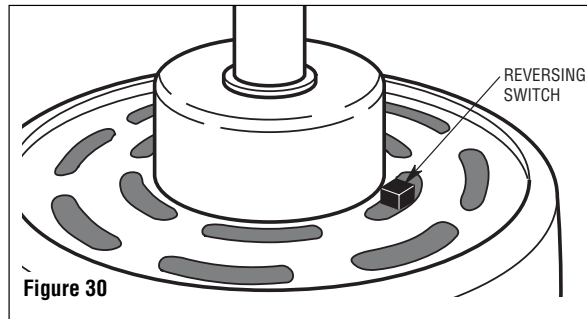

Figure 30
1. All fans are shipped from the factory with the reversing switch positioned to circulate air downward. If airflow is desired in opposite direction, turn your fan off and wait for the blades to stop turning, then slide the reversing switch to the opposite position, and turn fan on again (Figure 30).